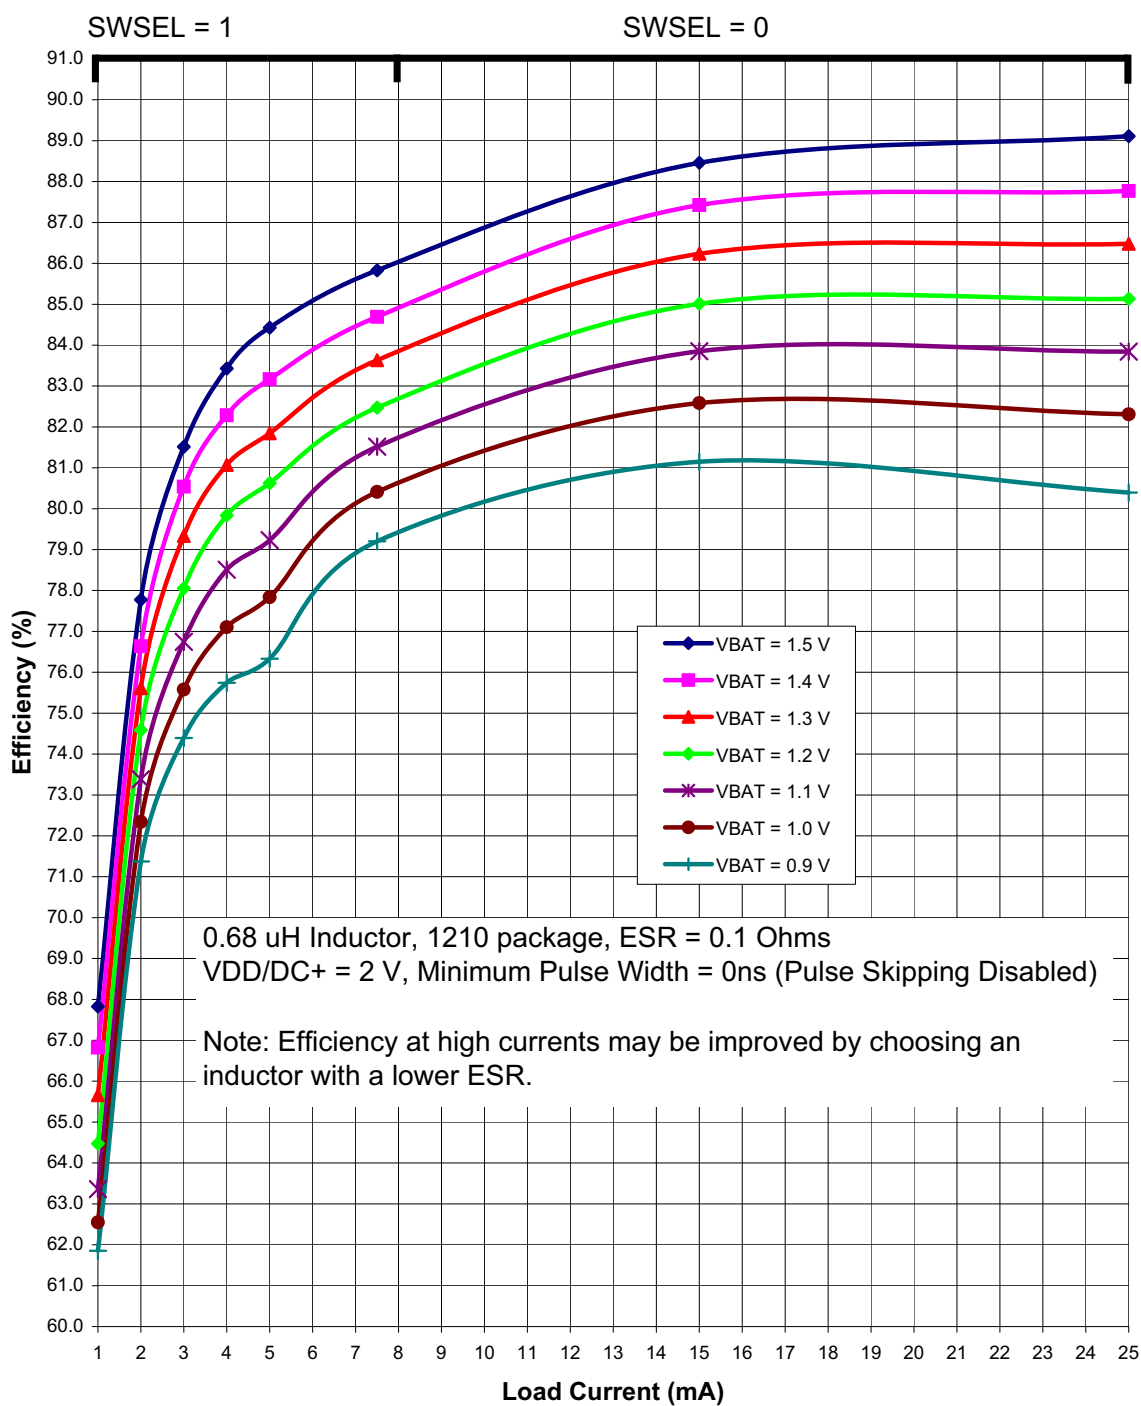
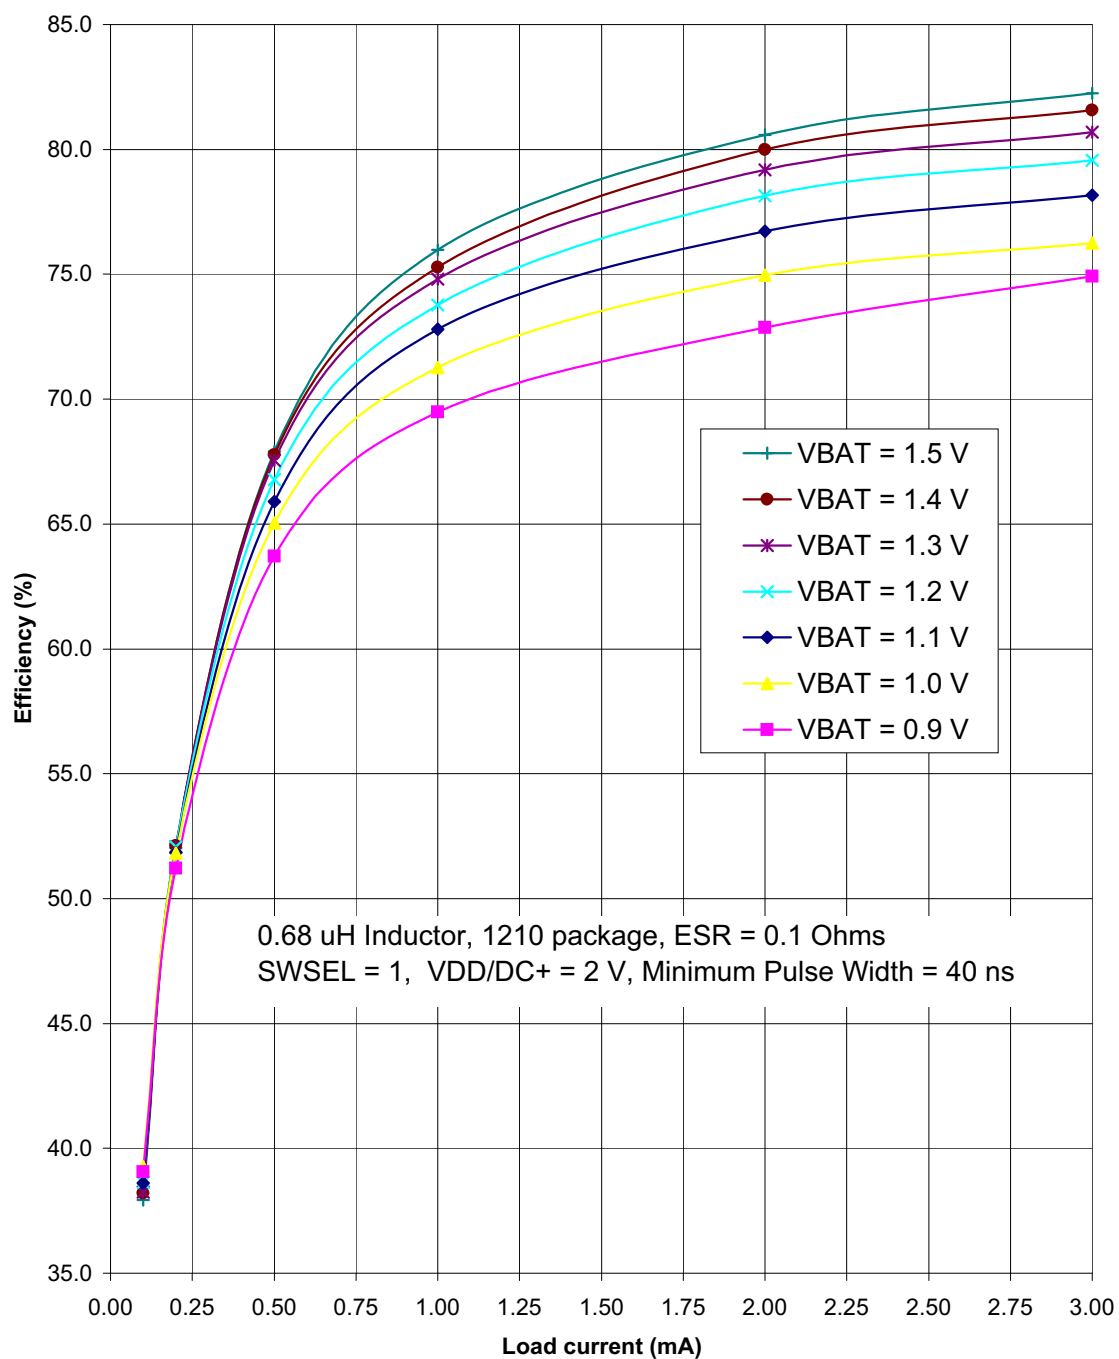

Figure 4.3. Typical DC-DC Converter Efficiency (High Current, VDD/DC+ = 2 V)
Figure 4.5. Typical DC-DC Converter Efficiency (Low Current, VDD/DC+ = 2 V)
<p>Notes:</p> <ol style="list-style-type: none"> 1. Based on device characterization data; Not production tested. 2. SYSCLK must be at least 32 kHz to enable debugging. 3. Digital Supply Current depends upon the particular code being executed. The values in this table are obtained with the CPU executing an "sjmp \$" loop, which is the compiled form of a while(1) loop in C. One iteration requires 3 CPU clock cycles, and the flash memory is read on each cycle. The supply current will vary slightly based on the physical location of the sjmp instruction and the number of flash address lines that toggle as a result. In the worst case, current can increase by up to 30% if the sjmp loop straddles a 128-byte flash address boundary (e.g., 0x007F to 0x0080). Real-world code with larger loops and longer linear sequences will have few transitions across the 128-byte address boundaries. 4. Includes oscillator and regulator supply current. 5. IDD can be estimated for frequencies ≤10 MHz by simply multiplying the frequency of interest by the frequency sensitivity number for that range, then adding an offset of 90 µA. When using these numbers to estimate IDD for >10 MHz, the estimate should be the current at 25 MHz minus the difference in current indicated by the frequency sensitivity number. For example: VDD = 3.0 V; F = 20 MHz, IDD = 4.1 mA – (25 MHz – 20 MHz) x 0.120 mA/MHz = 3.5 mA. 6. The Supply Voltage is the voltage at the VDD_MCU pin, typically 1.8 to 3.6 V (default = 1.9 V). Idle IDD can be estimated by taking the current at 25 MHz minus the difference in current indicated by the frequency sensitivity number. For example: VDD = 3.0 V; F = 5 MHz, Idle IDD = 2.5 mA – (25 MHz – 5 MHz) x 0.095 mA/MHz = 0.6 mA. 7. The supply current specifications in Table 4.2 are for two cell mode. The VBAT current in one-cell mode can be estimated using the following equation: $\text{VBAT Current (one-cell mode)} = \frac{\text{Supply Voltage} \times \text{Supply Current (two-cell mode)}}{\text{DC-DC Converter Efficiency} \times \text{VBAT Voltage}}$ <p>The VBAT Voltage is the voltage at the VBAT pin, typically 0.9 to 1.8 V. The Supply Current (two-cell mode) is the data sheet specification for supply current. The Supply Voltage is the voltage at the VDD/DC+ pin, typically 1.8 to 3.3 V (default = 1.9 V). The DC-DC Converter Efficiency can be estimated using Figure 4.3–Figure 4.5.</p> 8. The radio peripheral is placed in Shutdown mode.